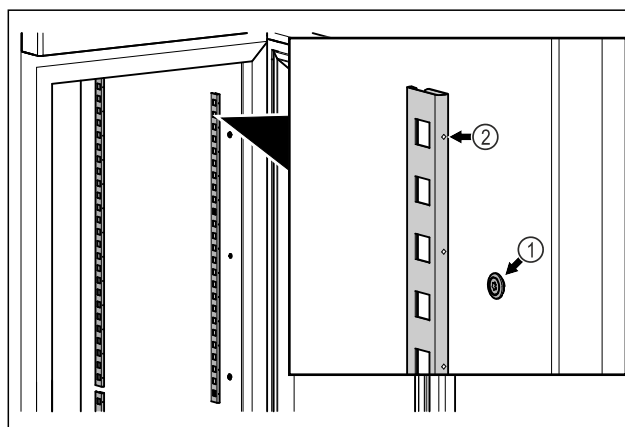

Fig. 56 Example illustration
- Hook the snap strips into the suspension Fig. 56 (1). Mark Fig. 56 (2) must point forwards.